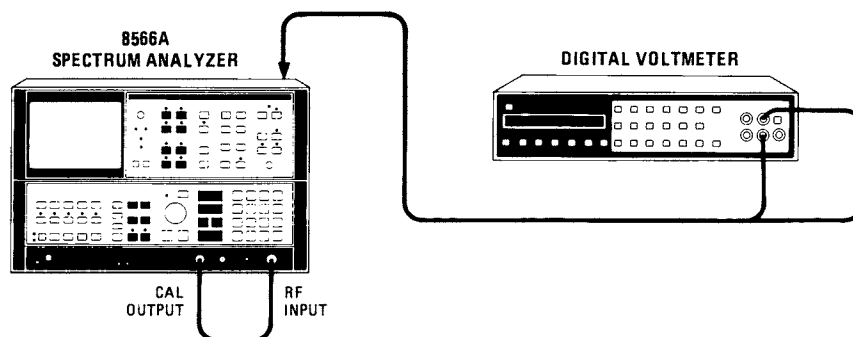

Figure 5-73. Track and Hold Adjustments Setup
1. Place instrument upright as shown in Figure 5-73 with top cover removed. Install A3A9 Track and Hold on extender.